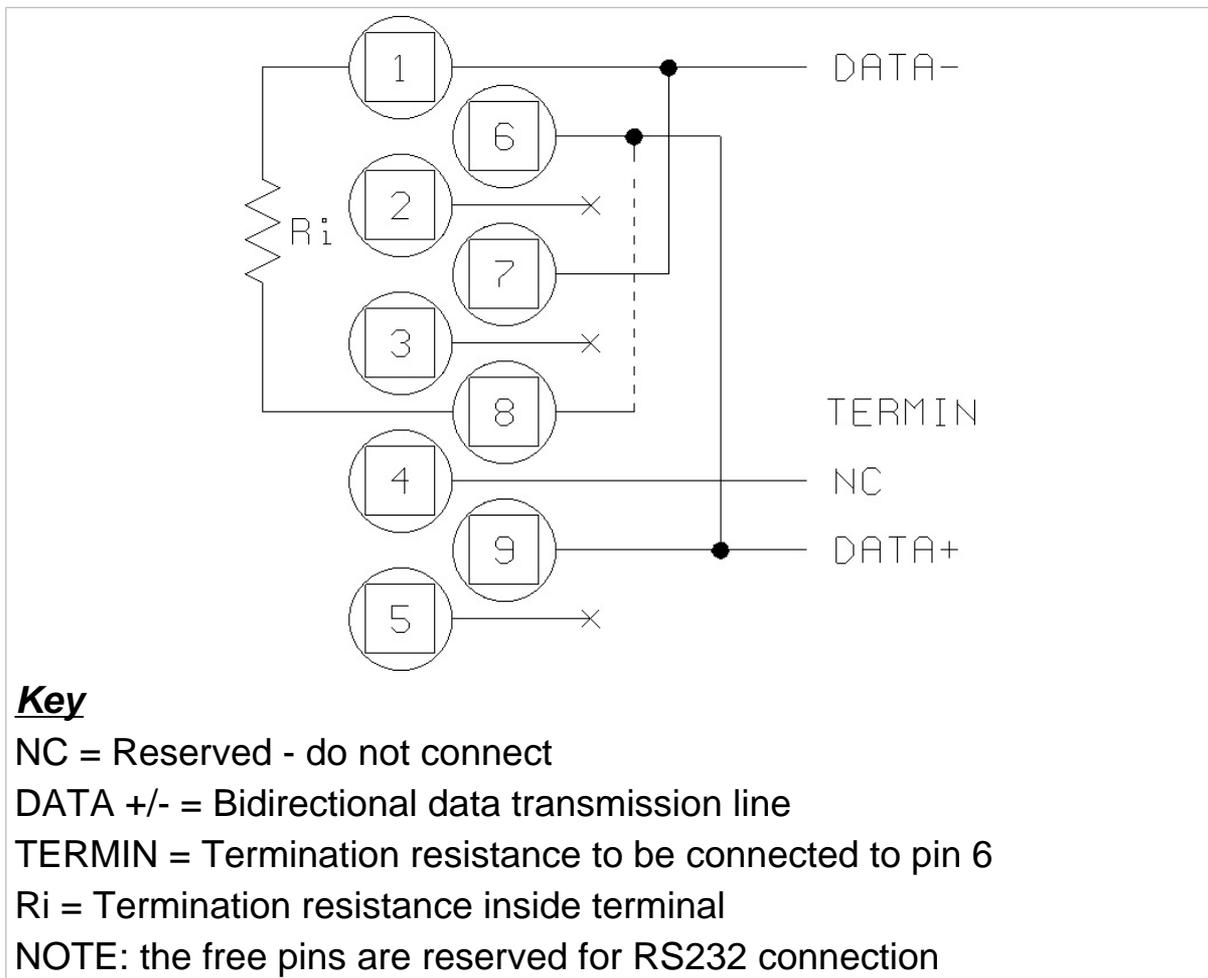

Figure 3.7 - Pinout for RS485 serial port connection (*log0006.gif*)
- ✓ connect together pins 9 and 6 and pins 1 and 7 (*Figure 3.7 on page 1-25*)